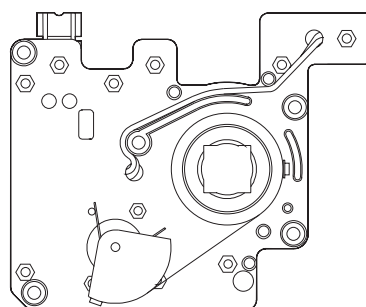

FIGURE 3. Bottom View of Carrier Plate Assembly Showing Shaft and Potentiometer in Mid Travel, Ready to be Fitted to Actuator in Mid Travel.
- (5) Observe the range of motion available to the positioner shaft, limited by the correct running of the potentiometer quadrant wheel, driven by the stainless steel strap ( see Figure 3 ). Fit the carrier plate/shaft assembly back into the positioner box with the shaft near mid-range, "feeling" the female square in the positioner shaft onto the male actuator square while maintaining its position near mid range. It is essential that the two shafts are correctly oriented relative to each other, since if they are 90 degrees out, the quadrant wheel can be forced too far and damage done to the drive mechanism during subsequent actuator movements. It is possible to fit the positioner correctly with the actuator square at one end of its travel, but experience indicates a high probability of mistaking the direction of movement of the actuator - hence it is strongly advised that the positioner be fitted with the actuator square at the mid-travel position, where there is no ambiguity possible.